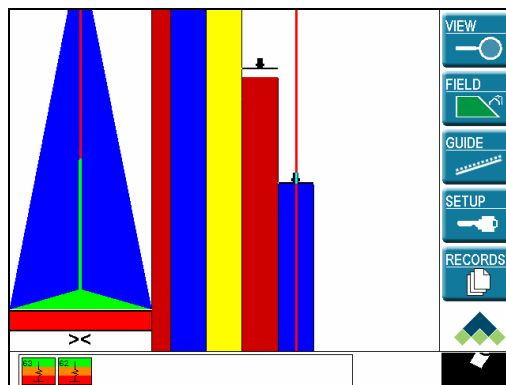

Figure 10-1 Map Screen showing FieldNET treatment done by three vehicles
4) Touch **BACK BACK**. The new setting will now take effect. See Figure 10-1